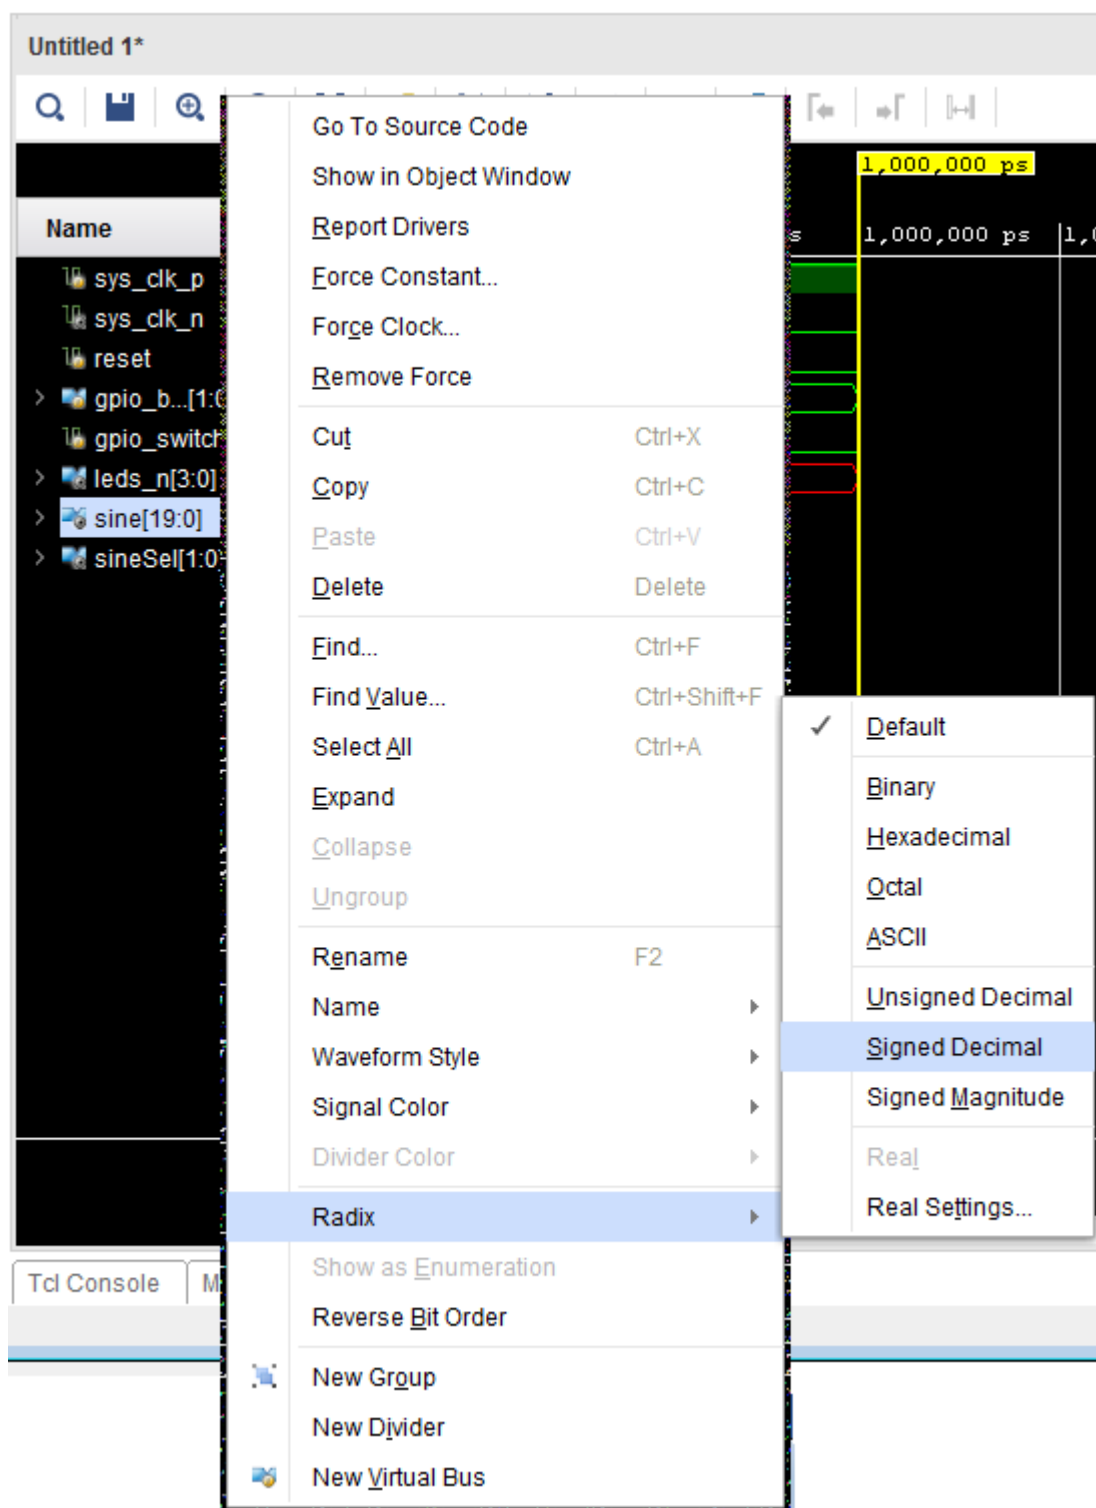

Figure 18: Enable Radix
3. Right click to open the popup menu again, and select **Radix > Signed Decimal** as shown in Figure 18.